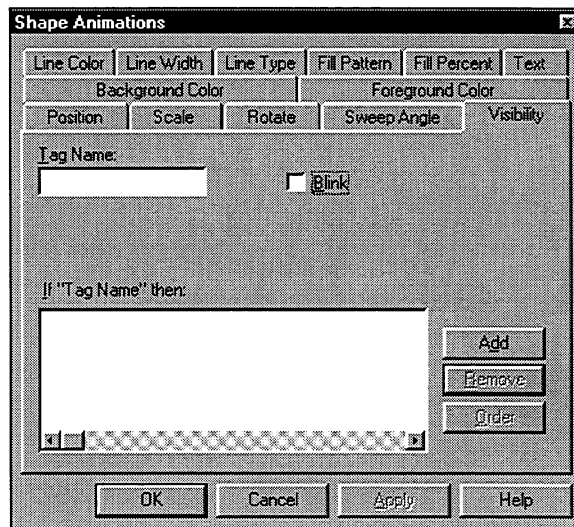

Figure 7-6. Visibility Animation Page
3. Click on the Visibility tab to access the Visibility animation page, as shown in Figure 7-6.